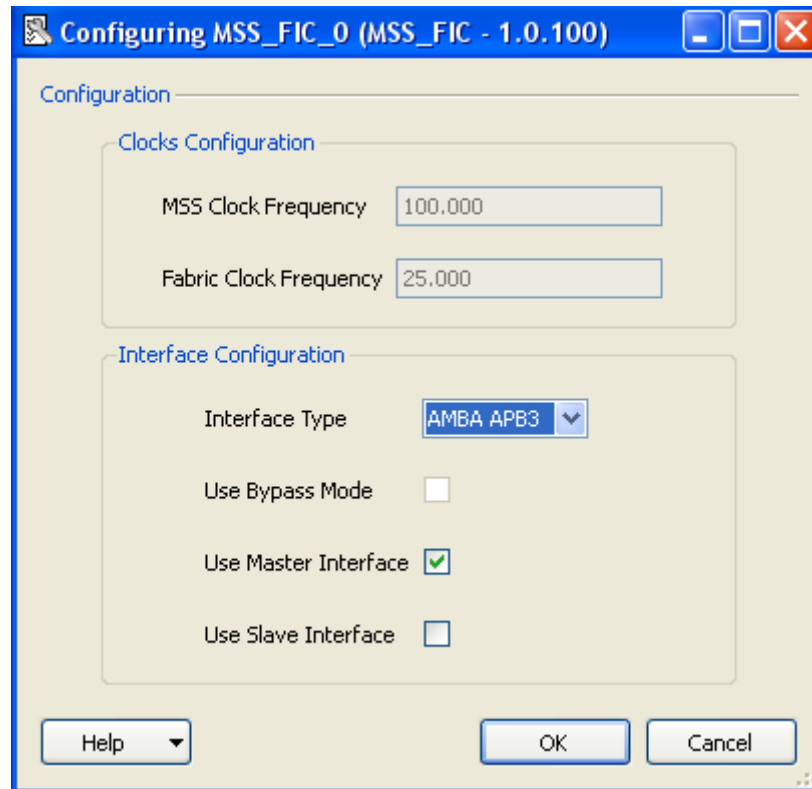

Figure 11 • Configuring the Fabric Interface Controller
1. In the Actel SmartDesign Framework, configure the Fabric Interface inside the MSS configurator by double-clicking the Fabric Interface sub-configurator (Figure 11) and configure the FIC with APB3 interface.